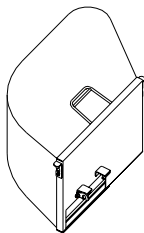

FIG2
- Grass catcher:100L, see FIG2